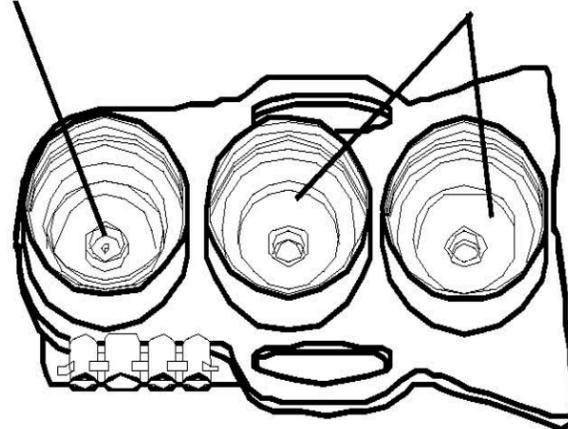

Figure 7
- D. Securely insert O-ring end of elements into manifold. See Figure 7.
- B. Pour a tablespoon (15 milliliters) of chlorine bleach into the center opening of the pre-filter housing connection. See Figure 7.